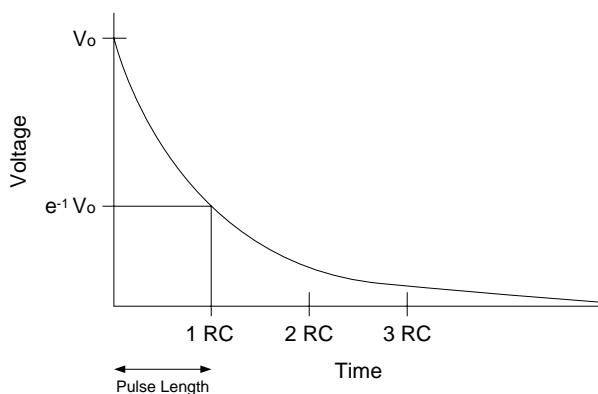

Figure 5. Capacitor Discharge Curve.
where V_0 is the voltage at time zero, e is a constant (2.72), R is the resistance (Ω), and C is the capacitance (F). A plot of this function is shown in figure 5.